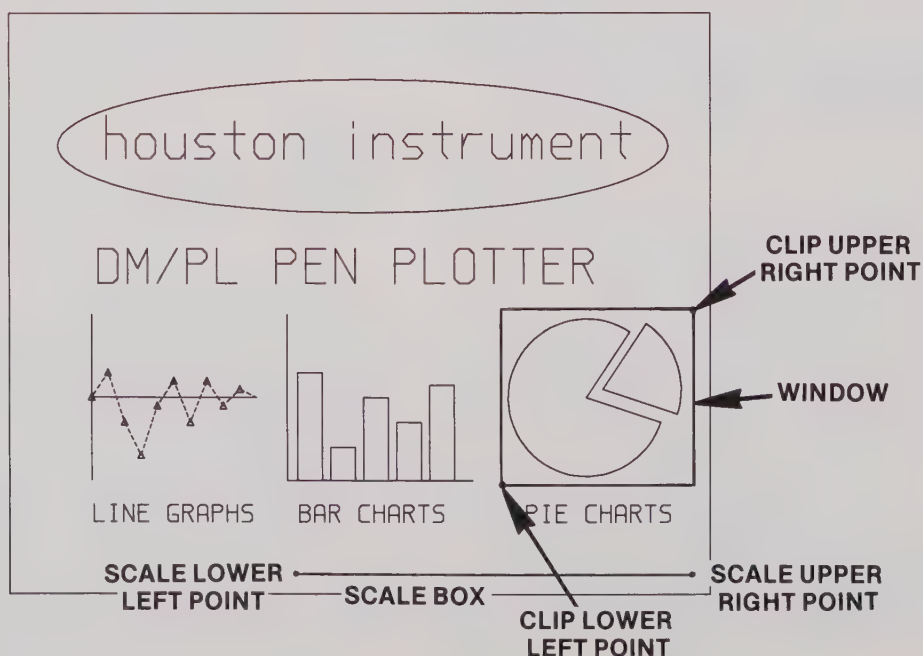

FIGURE 2-11
4. Use the plotter manual controls and move the pen to the approximate location for the window lower left point shown in Figure 2-11.
6. Use the plotter manual controls and move the pen to the approximate location for the window upper right point shown in Figure 2-11.
8. Use the plotter manual controls and move the pen to the approximate location for the scale lower left point shown in Figure 2-11.
10. Use the plotter manual controls and move the pen to the approximate location for the scale upper right point shown in Figure 2-11.
13. Insert a clean sheet of small chart paper or use the backside of the used sheet. Use the manual movement keys to move the pen to the vicinity of the scale lower left point shown in Figure 2-11.